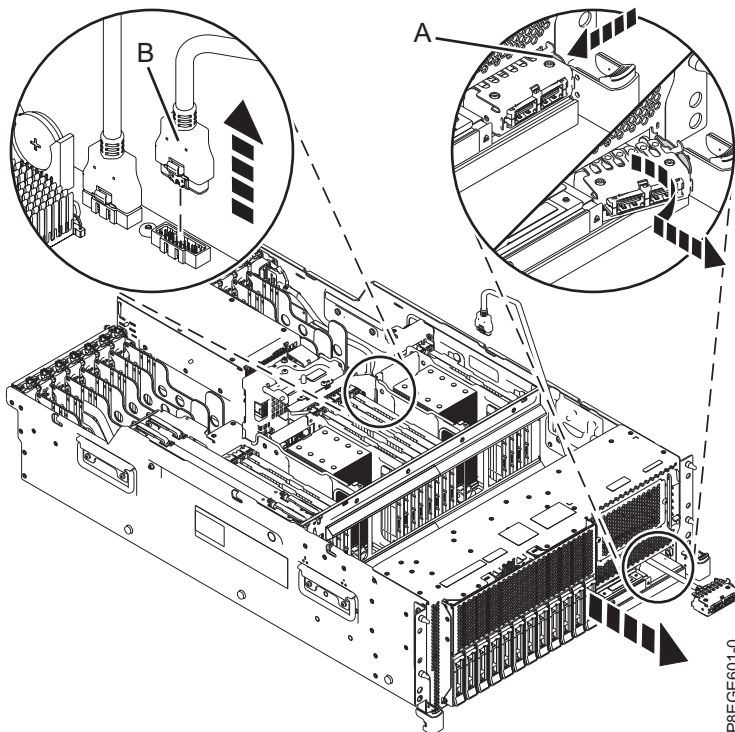

Figure 2. Unplugging the USB cable from the system backplane
5. Unplug the front USB cable (B) from the system backplane as shown in Figure 2.
6. Unlatch the USB cable housing (A) from the front of the system. Push the right side of the housing and pivot it to the left as you pull it out towards you. See Figure 2.